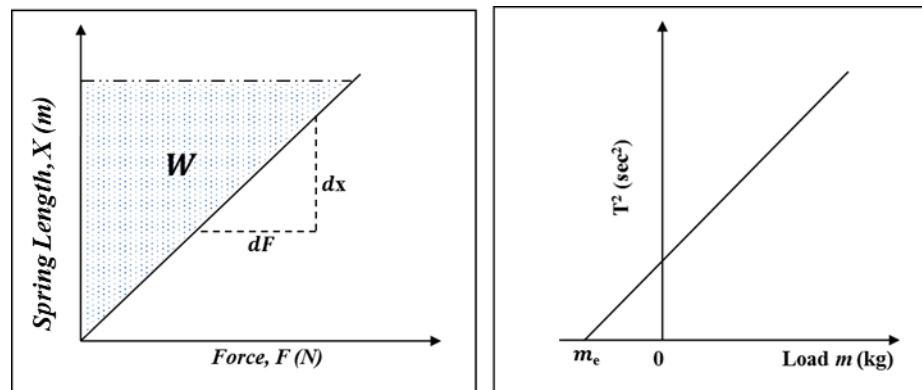

Figure 2: Extension vs Force and T^2 vs load graph for a spring mass system
5. Determine the Force $= mg$ (N) applied for each mass and record it in Table-1.
9. Plot the Force Applied (F) vs. Total Elongation (X), and determine the slope of the line. See Figure 2.
13. Plot another graph with m (abscissa) against T^2 (ordinate) as shown in Figure 2 (right). Find out the effective mass (m_e) by taking the point of intercept of the resulting lines on *horizontal* axis.